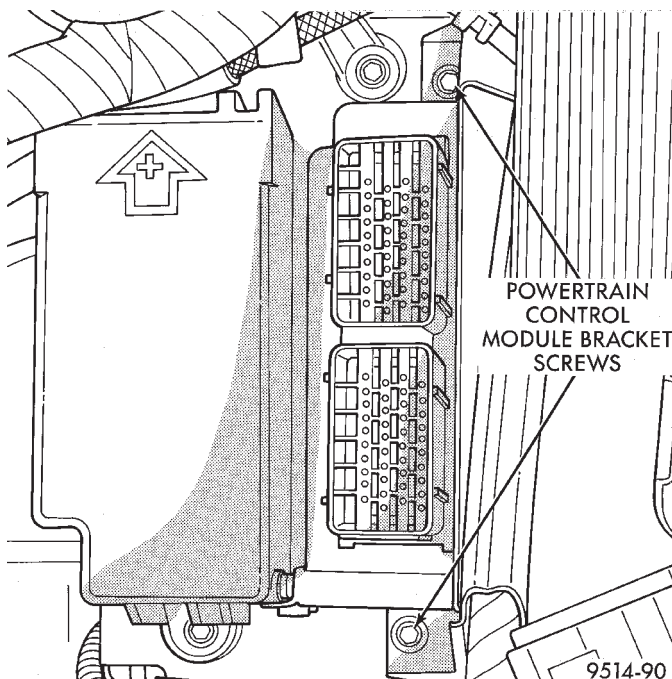

Fig. 35 PCM Bracket Screws
- (2) Disconnect both 40-way connectors from PCM.
- (3) Remove screws attaching PCM to bracket (Fig. 35).